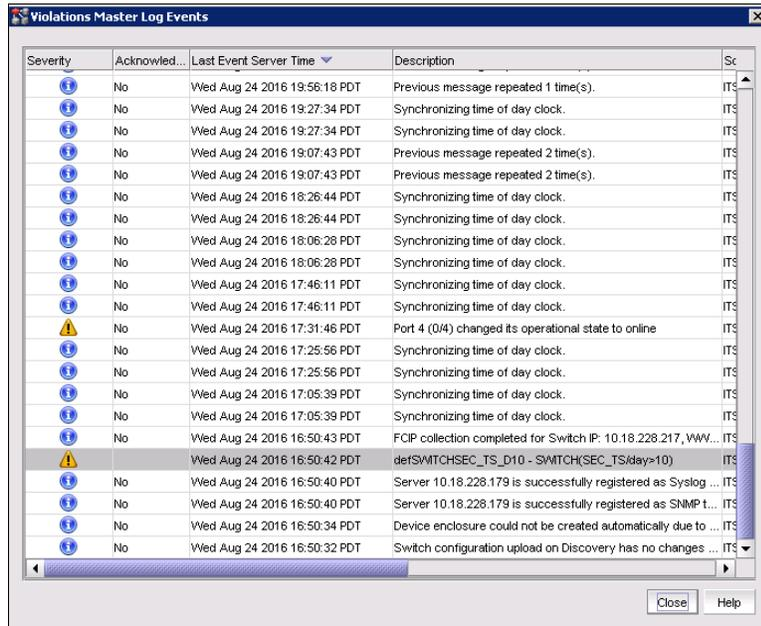

Figure 7-11 MAPS log events
4. Select one or more violations and click **Events** to open the MAPS Violation Master Log Events window. The MAPS Violation Master Log Events window is displayed (Figure 7-11).